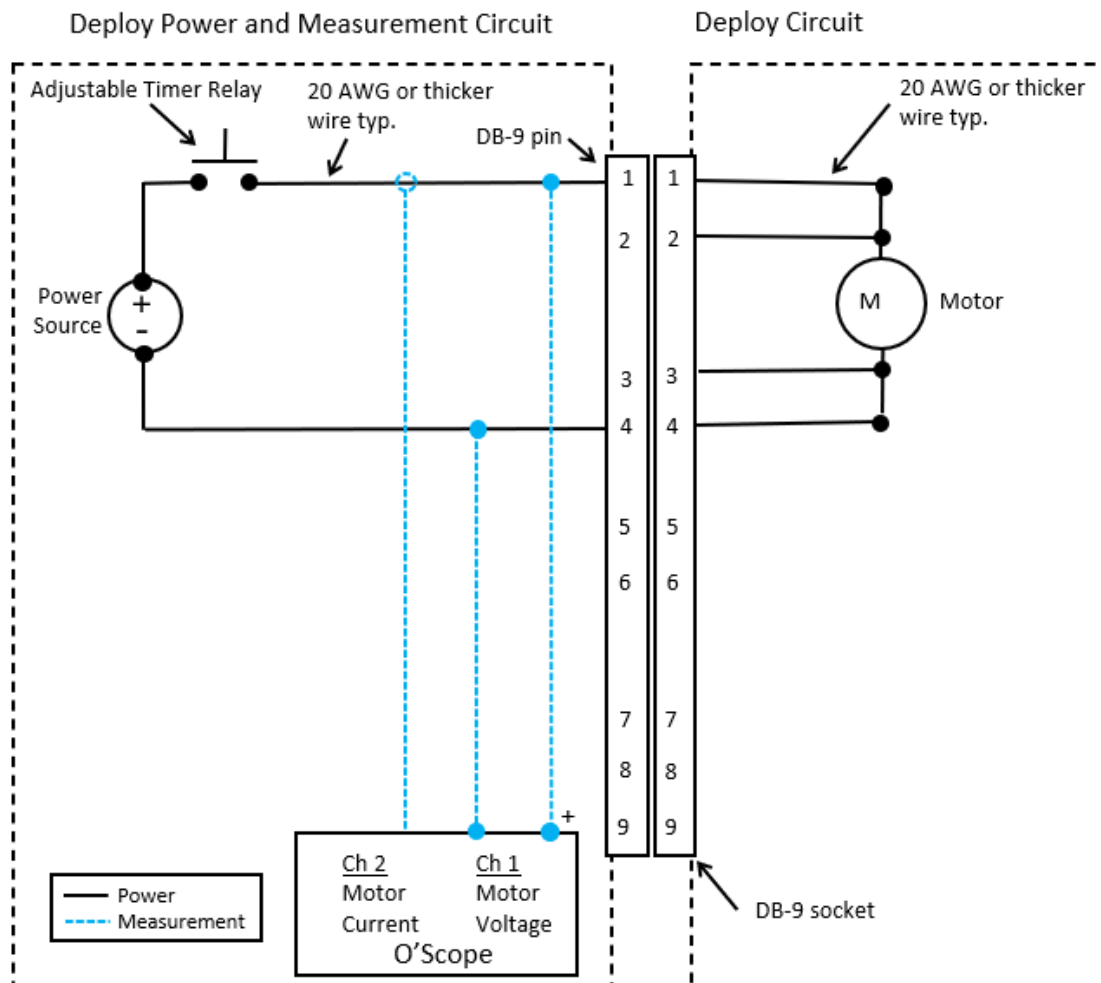

Figure 12-2: Deploy circuit
12.2.5	Connect the Lightband to the deploy power and measurement circuit per Figure 12-2. Do not apply power to the Lightband.